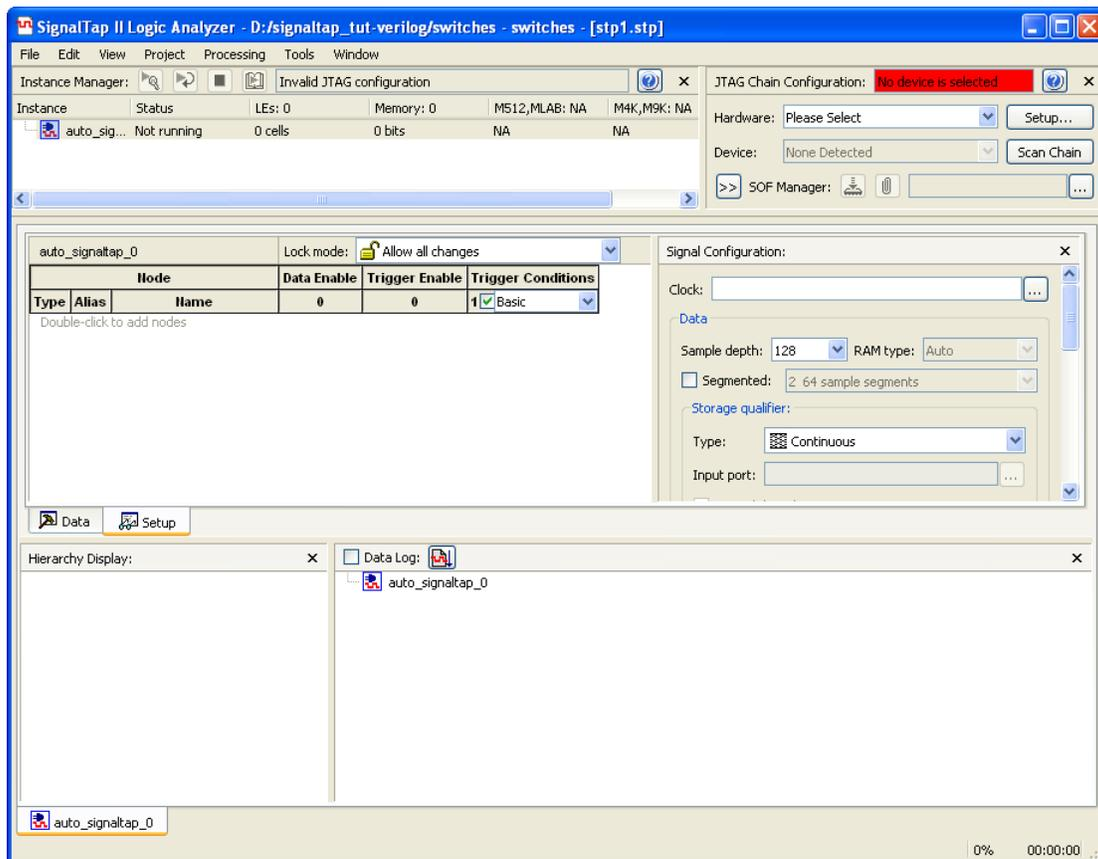

Figure 3. The SignalTap II window.
2. The SignalTap II window with the Setup tab selected is depicted in Figure 3. Save the file under the name *switches.stp*. In the dialog box that follows (Figure 4), click OK. For the dialog "Do you want to enable SignalTap II file 'switches.stp' for the current project?" click Yes (Figure 5). The file *switches.stp* is now the SignalTap file associated with the project.